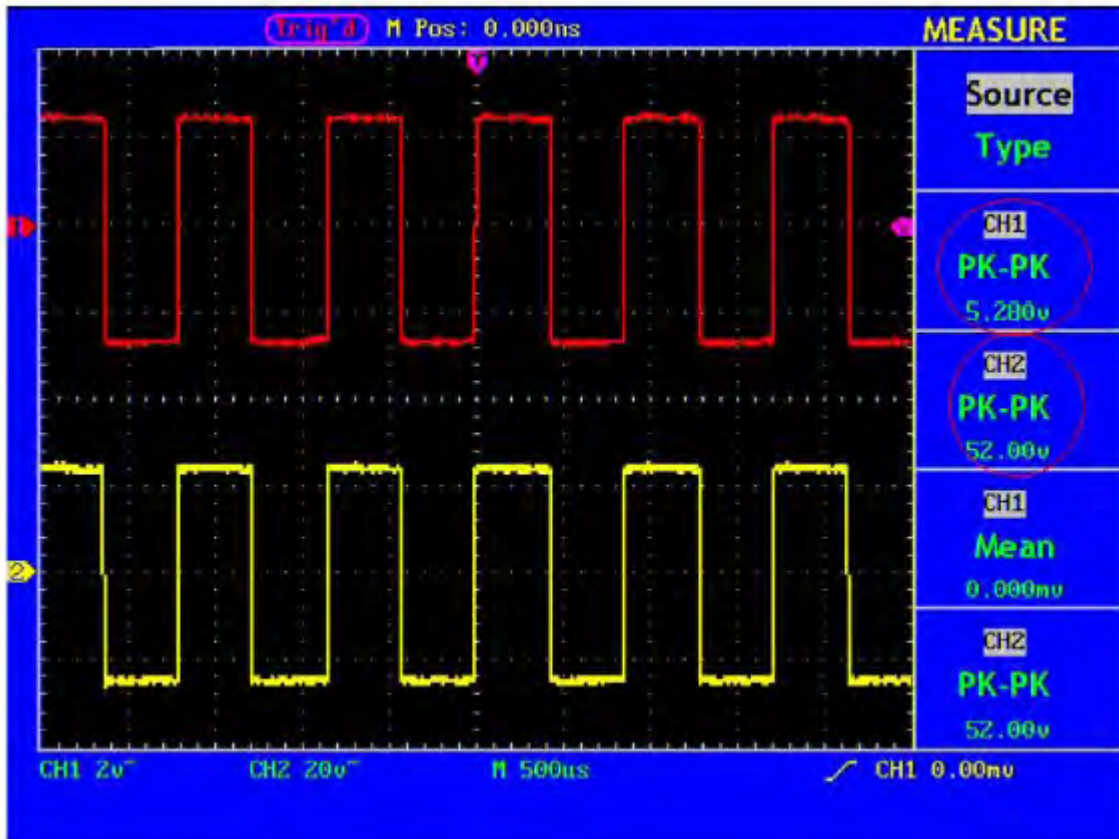

Fig. 54 Wave Form of Gain Measurement
9. Read the peak-to-peak values of Channel 1 and Channel 2 from the displayed menu (see Fig. 54).